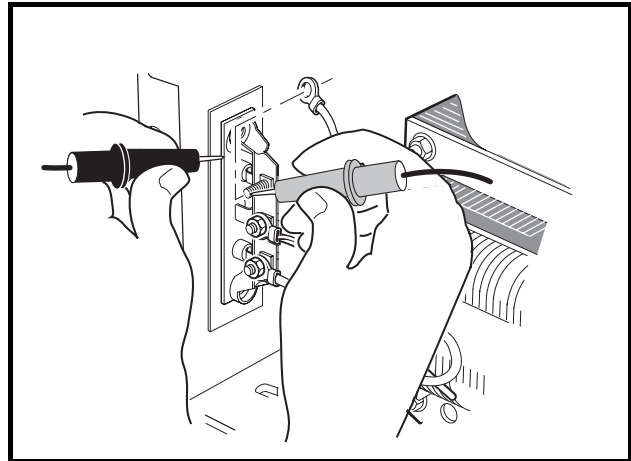

Figure 4-15 Diode Test – Probes Reversed
6. Reverse test probes and check each diode again and note the reading (**Figure 4-15, Page 4-17**). A diode is designed to conduct current in one direction only. If a diode conducts current (shows continuity) in both directions, the entire heatsink with diodes must be replaced. If a diode does not conduct current (does not show continuity) in either direction, the entire heatsink must be replaced.